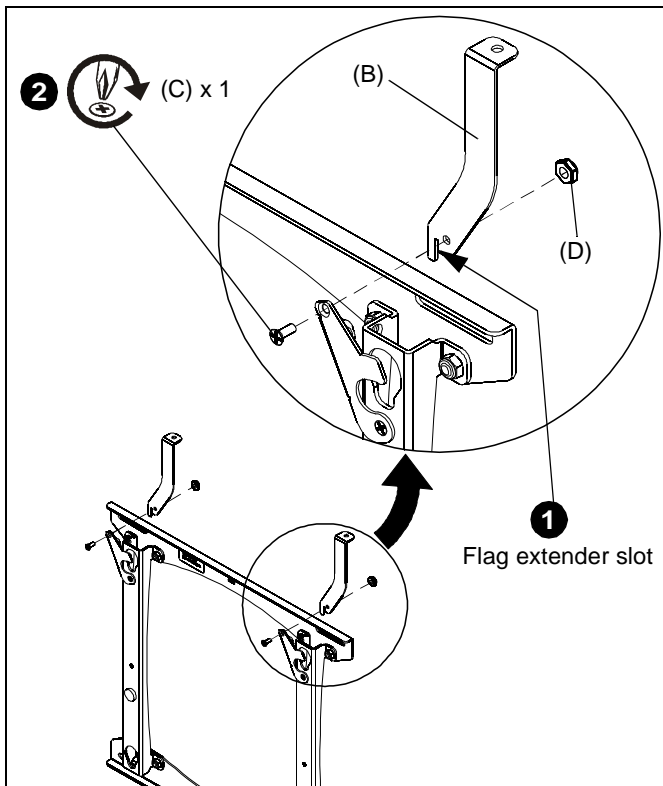

Figure 1
1. Insert flag extender (B) slot into top of right latching flag.
2. Attach using one 10-24 x 1/2" Phillips undercut machine screw (C) and one 10-24 nylon locknut (D). (See Figure 1)
3. Repeat with left latching flag. (See Figure 1)